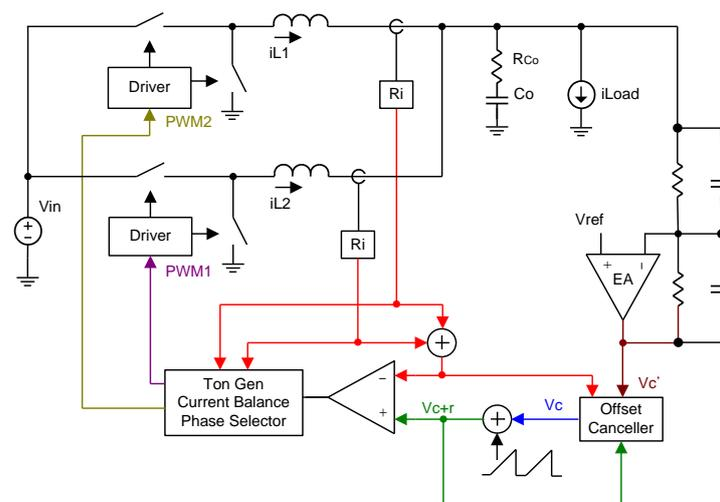

Figure 2. G-NAVP™ control topology circuit diagram.
Figure 2 shows the circuit diagram of G-NAVP™ topology. The G-NAVP™ topology is a constant on-time current-mode control with external ramp and DC offset cancellation. The error amplifier (EA) is designed to finite DC gain to adjust the AVP load-line and do the pole and zero compensation. The current signal is sensed through the DCR current sensing network and modulation with the external ramp and comp signal. The external ramp is added in the purpose to increase the noise immunity. The on-time generator will automatic change the on-time with the input and output voltage to make the inductor current ripple as constant over the entire input/output range. For more accurate output voltage, the DC offset cancellation function is added in the loop to cancel the ripple offset voltage. The functions mentioned above not only increase the robustness and accuracy of CPU controller but also maintain the good transient response performance.